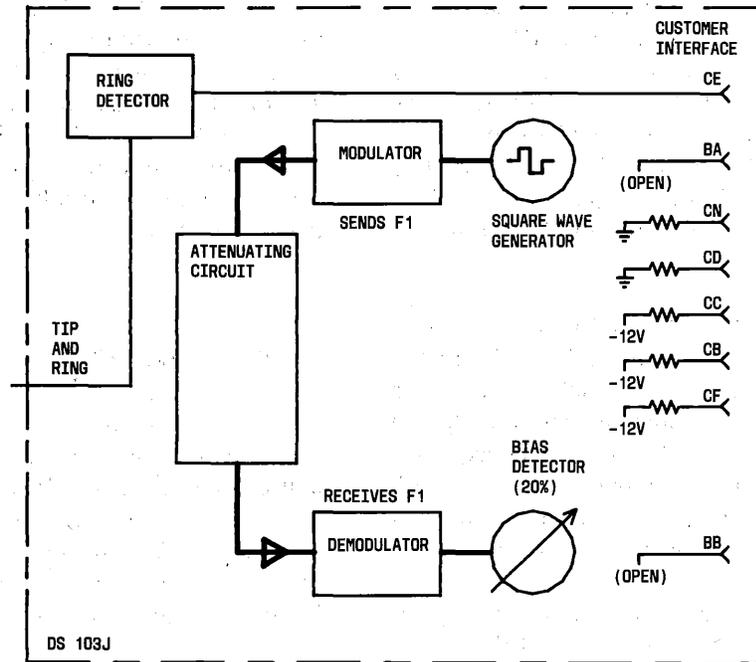

Fig. 3—Local Self Test Mode—Simplified Block Diagram
2.09 In the local self test (Fig. 3), the data set goes through the handshaking sequence. The square wave signal is applied to the transmitter, looped through an attenuating circuit to the receiver, and the demodulated signal is checked by the bias detector. In this way, most of the circuits of the data set are checked. The MC lamp goes off after a short delay if the bias of the received data signal is under 20 percent. All other lamps except TR are lighted, indicating proper operation of the set. The TR lamp is lighted if the CPE has the CD lead turned **on**.